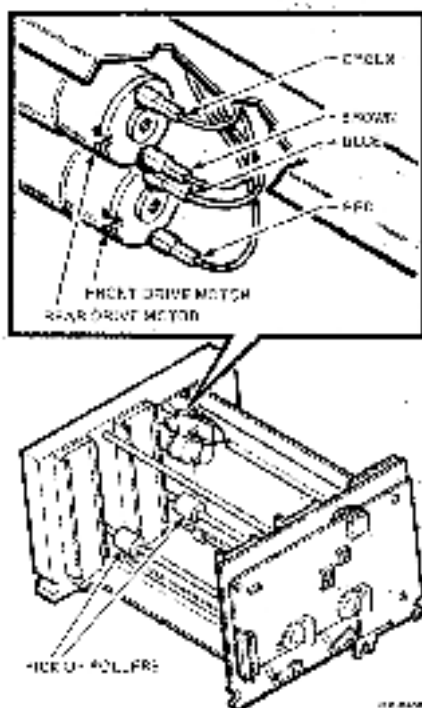

Figure 4-14 Drive Motor Connections
2. Remove the green () and brown () connectors from drive motor by pulling them straight out (Figure 4-14).
2. Remove the blue (—) and red (—) connectors from drive motor (Figure 4-14).